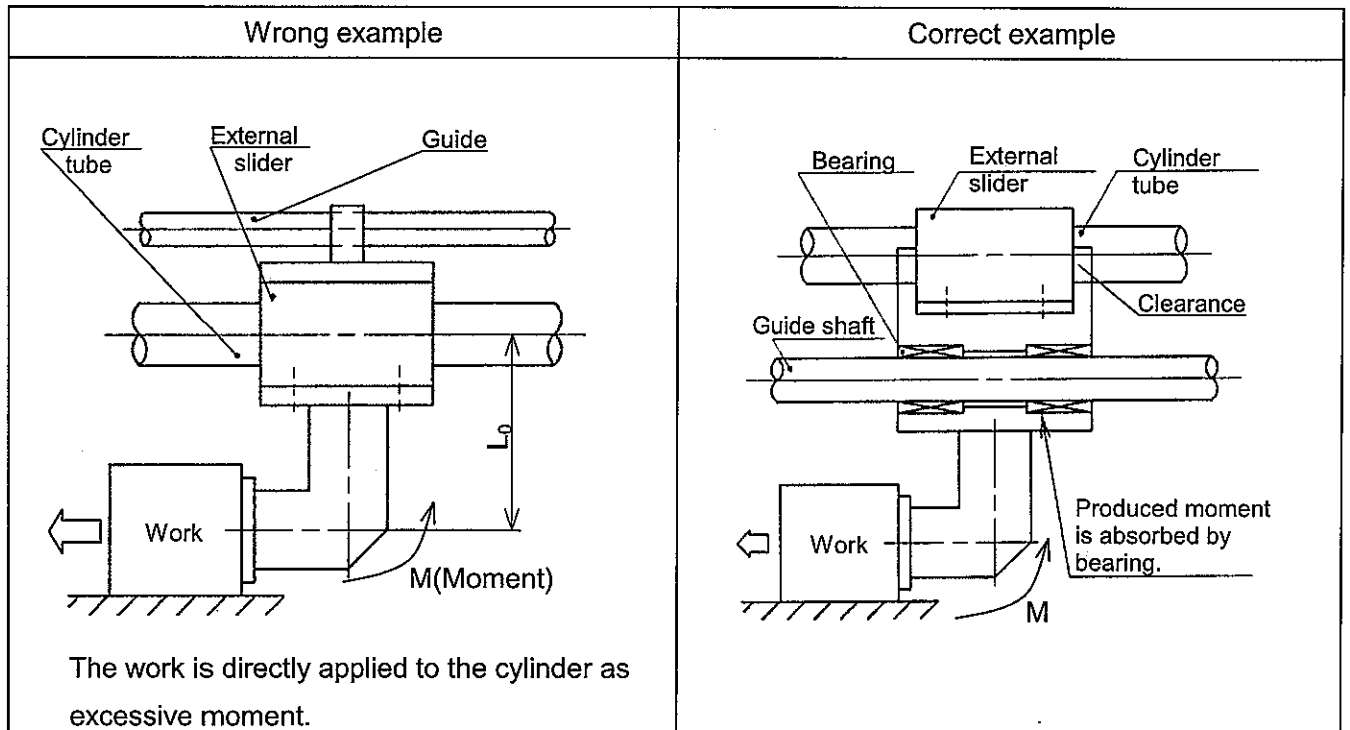

Fig. 4-1 [Ex.-1]
* The installation as shown on Fig. 4-1 and 4-2 are recommended, but if they are not available due to mounted load, the installation like above can be substituted. For this installation, check relationship between actuating force and moment on page 10 in prior.
If any of them exceeds corresponding allowable value, add the axis (LM guide etc.) to the cylinder. (Fig. 4-1 to 4-4)